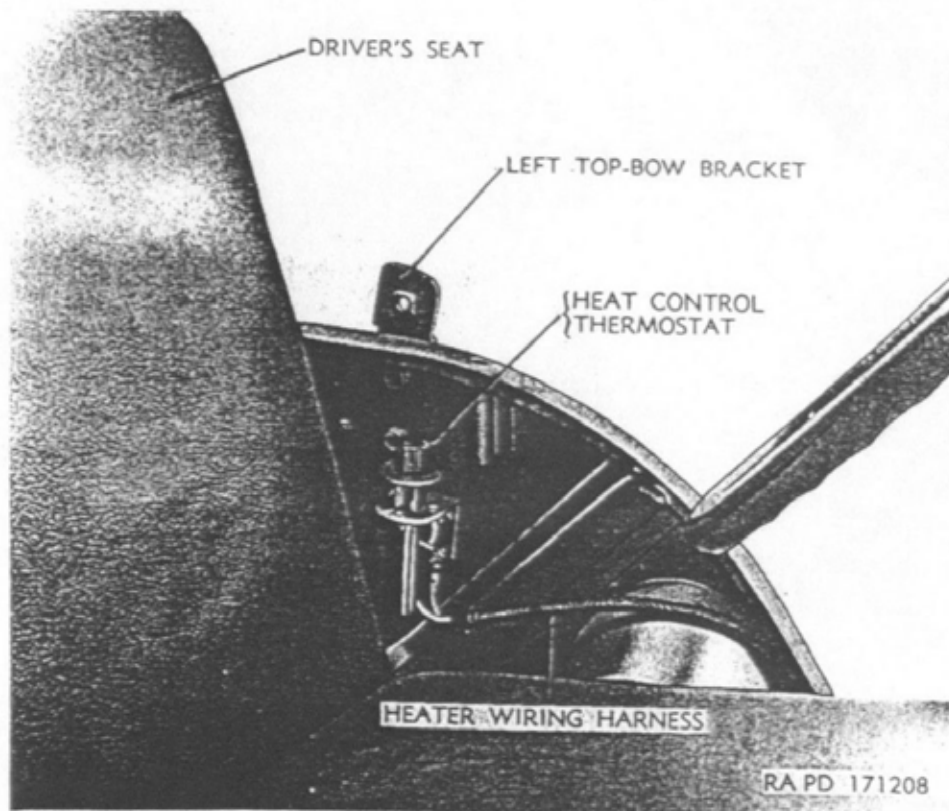

Figure 23. Heat control thermostat installed.
m. Heat control thermostat. Hold the heat control thermostat in a vertical position against the inside of the vehicle body, alongside of the driver's back rest, just forward of the left front top-bow bracket (fig. 23). Scribe through the two screw holes and drill through the body, using a $\frac{1}{4}$ -inch drill. Mount the thermostat, using two No. 10-32 x $\frac{1}{2}$ machine screws, lock washers, and nuts provided with the thermostat. Heads of screws should be outside of vehicle.